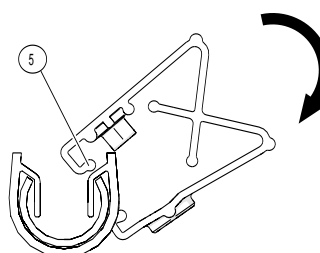
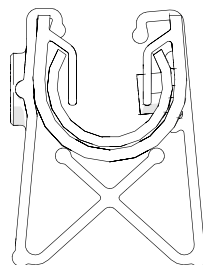

Fig. 67: Clip on the anchor point
Fig. 68: Anchor point is clipped (end position)
- Clip the pins of the anchor points into the hole (see Fig. 67 and Fig. 68).